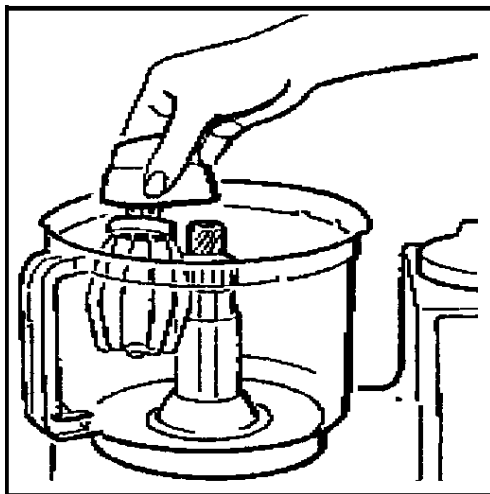

Figure 19.
- c. Pick up the “Universal” beater and place it over driveshaft, see figure 19.